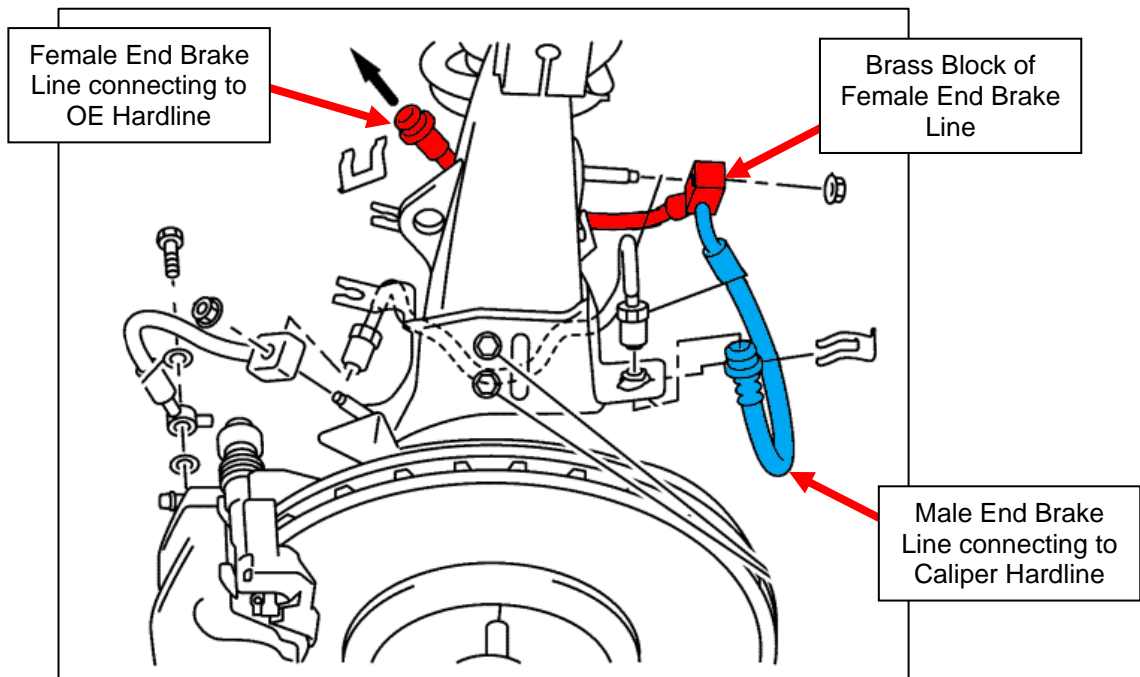

Figure 8
14. Install the Open End of the Male End Brake Line to the Hardline from the Caliper. The Brass Block of the Shorter Female End Brake Line will be secured to the Strut Mount. The Female End of the Brake Line will connect to the OE Hardline from the chassis of the vehicle. *Figure 8.*